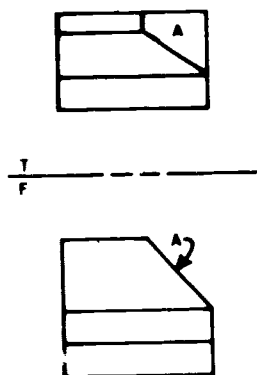

Figure 5.8
1. Sketch a primary auxiliary view of the entire object shown in Figure 5.8 which shows the true shape of plane A.